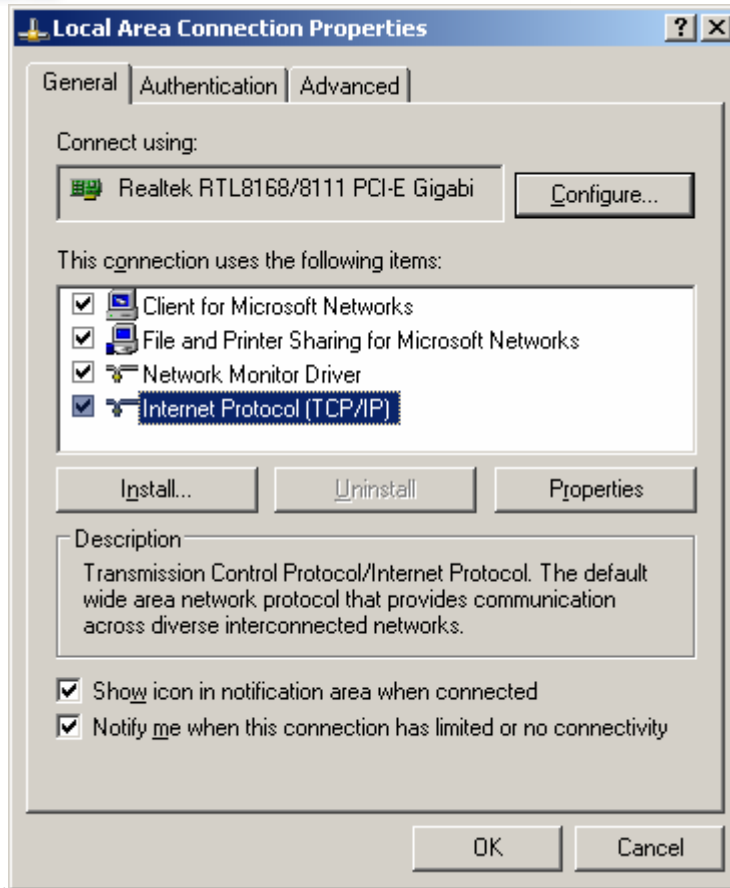

Figure 26: Local Area Connection Properties
2. Right mouse click on Local Area Connection and select properties. Under the General tab select Internet Protocol (TCP/IP) and click Properties button, refer to Figure 26:, Local Area Connection Properties on page 38.